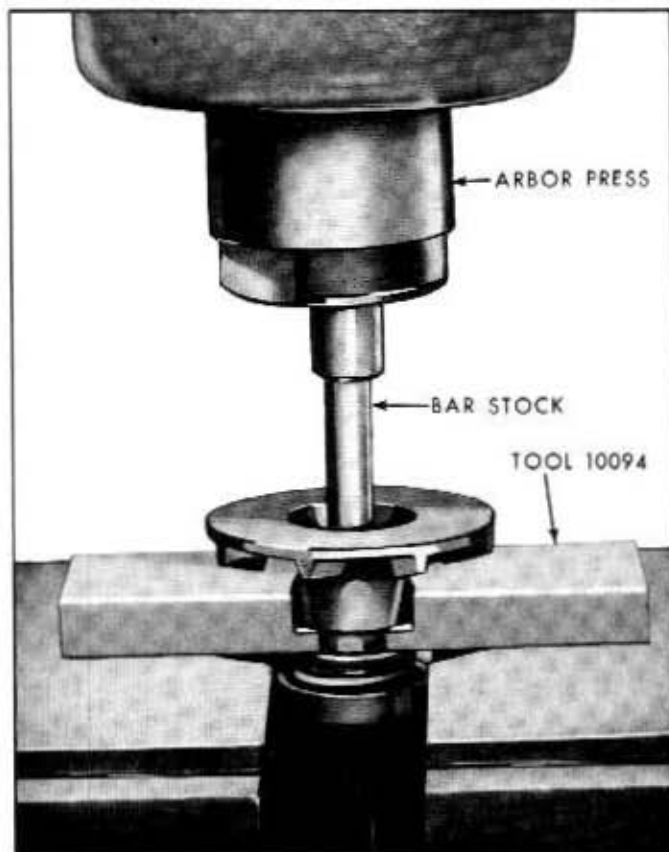

Fig. 8-7—Impeller Removal—(60C-6004)
3. With Tool 10094, remove the impeller from the shaft. See figure 8-7.